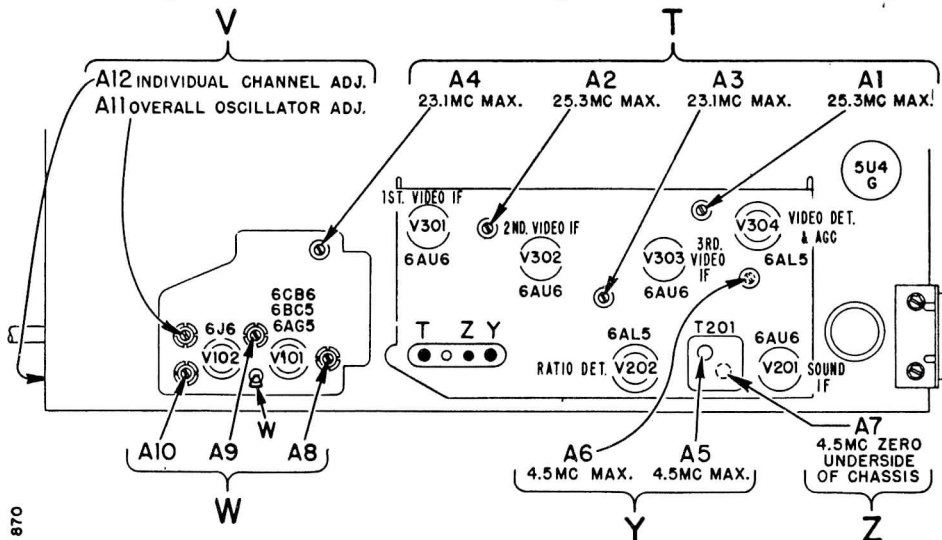

Figure 30. Top View of Chassis Showing Alignment Adjustment Locations.
- a. Disconnect 1½ volt battery from test jack "T" if used earlier. Connect a wire jumper from test jack "T" (Fig. 30) to chassis. Leave connected for all steps in this alignment.
- d. Connect oscilloscope through a 10,000 ohm resistor to test point "W" on tuner (Fig. 30). Keep scope leads away from chassis.